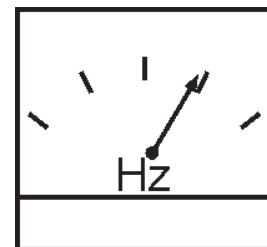

Figure 24. Frequency Meter (Hz)
4. The generator's frequency meter (Figure 24) should be displaying the 60 cycle output frequency in **HERTZ**.